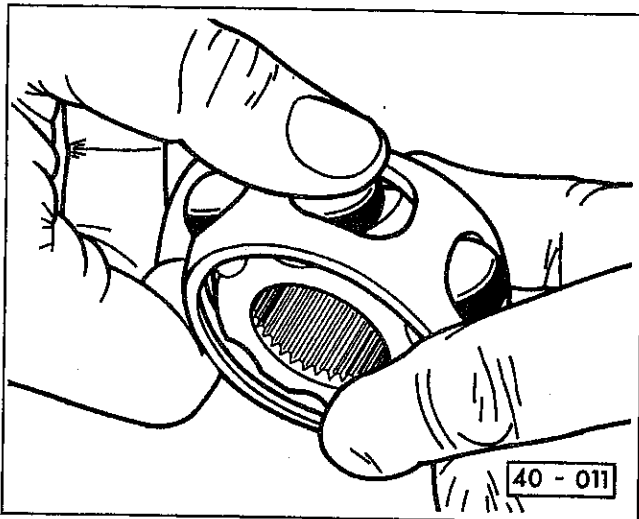

Fig. 28. Balls being pressed into cage.
7. Align ball hub to cage using marks made earlier. Press balls into cage. See Fig. 28.